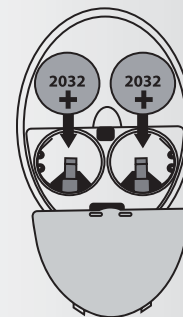

Fig. 29
**Note:** To prevent damage to transmitter, remove the batteries if not used for long periods of time (months). (Fig. 29)